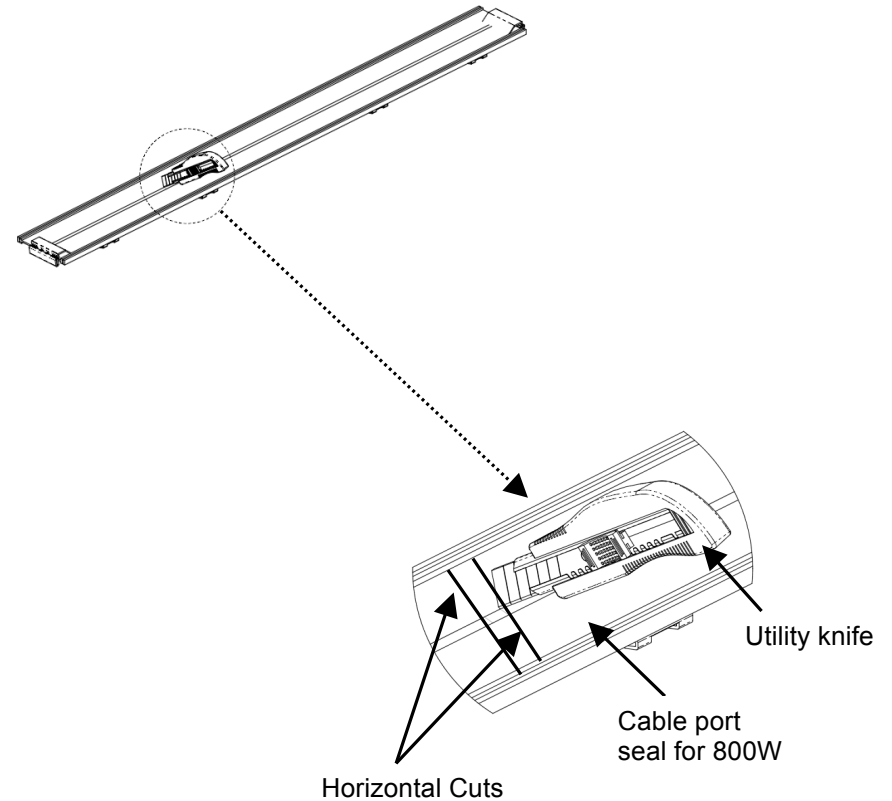

Fig. 11
10. Use Utility Knife to cut minimum material required to route cabling (Fig.11)